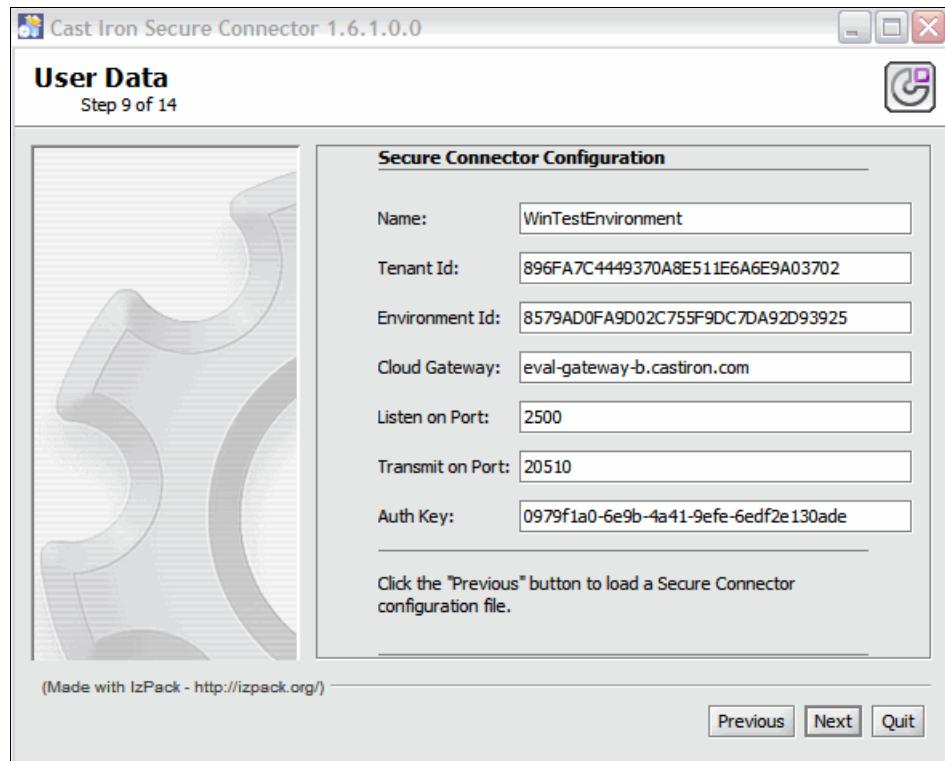

Figure 2-42 Cast Iron Secure Connector installation user data display
11. The installation wizard reads the configuration file and displays the user data in step 9, as shown in Figure 2-42. Ensure that the listener port, which defaults to 2500, is not already in use in your system. If required, change the port to a port that is not in use. Click **Next**.